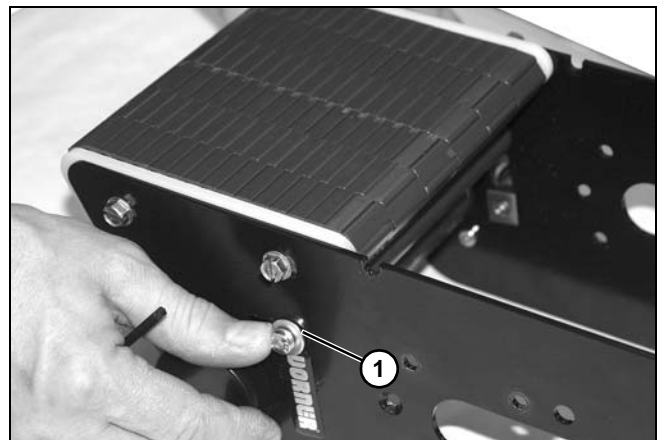

Figure 121
13. Slide assembly within slot (**Figure 121, item 1**) to remove tension on belt.